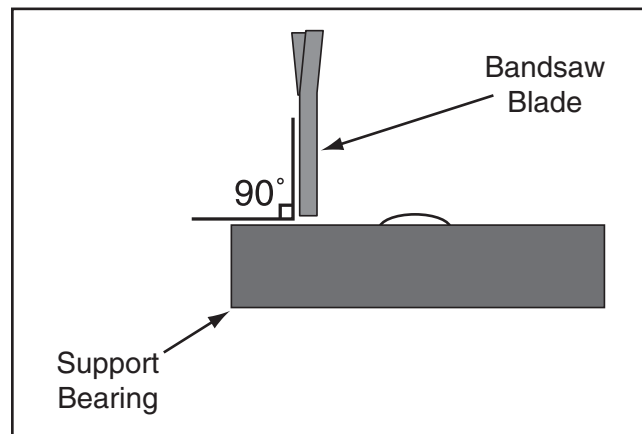

Figure 30. The face of the support bearing must be perpendicular (90°) to the blade.
4. Rotate the blade guide assembly until the face of the support bearing is perpendicular to the blade, as illustrated in the **Figure 30**.